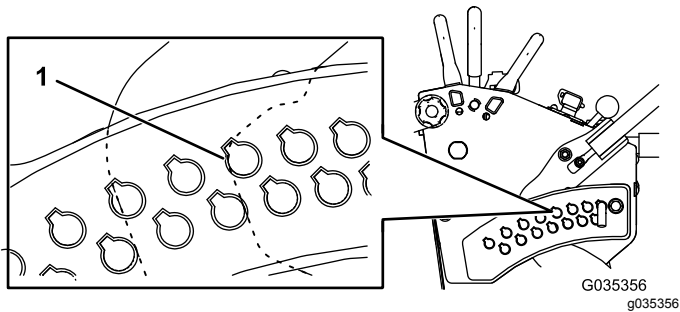

Figure 2
- Lightly pull back the height-of-cut lever with 1 finger and note the position of the lever relative to the tangent of the hole for the 7.6 cm (3 inch) height of cut (Figure 2).
- Adjust the linkage until the lever is tangent to the 7.6 cm (3 inch) hole when you pull back the lever with 1 finger (Figure 2).